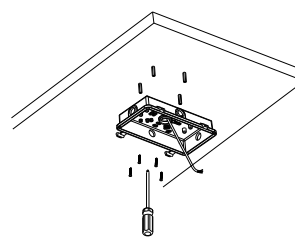

Figure 2-4
- 4.Fix the driver box cover on the ceiling; Figure 2-4